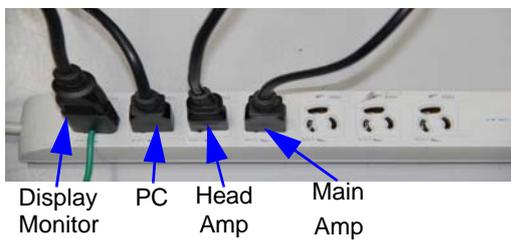

Figure 2-5. Power supply cord.
9. Insert the 3-pronged power plugs of the Main Amplifier, Head Amplifier, and PC into a SINGLE POWER STRIP, and connect the power strip in a wall socket **so that all equipment are grounded through the power strip** (Figure 2-5).